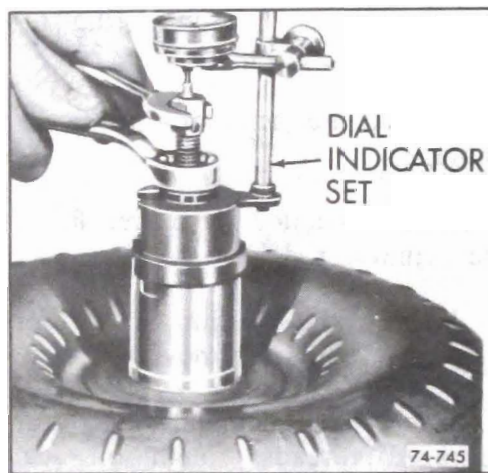

Figure 76-745
c. Install dial indicator set at 0 as shown in Figure 76-745.
d. Loosen hex nut. When nut is fully loosened the reading obtained on the dial indicator will be converter end clearance. If clearance is .050" or over and the oil has the appearance of having been mixed with aluminum paint, replace the converter. See Figure 76-745.